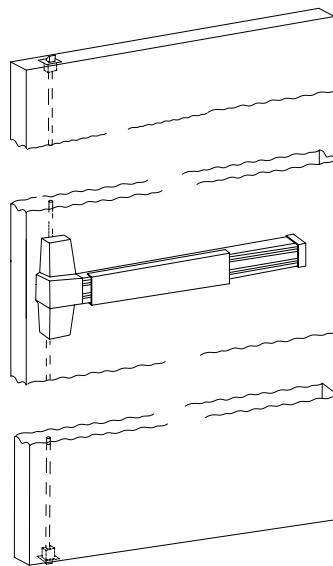
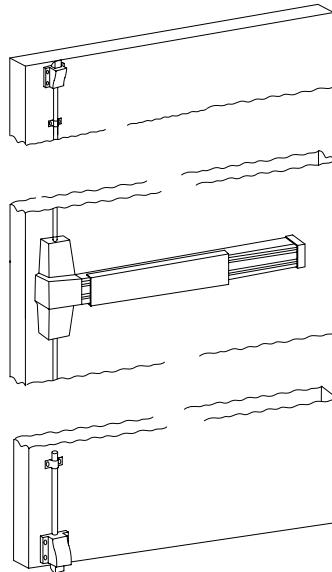

FIGURE 10c
FIGURE 10d
2. Vertical Rod types; (Concealed Figure 10c, and Surface, Figure 10d;) are normally used on pairs of doors. In preparing the door for an exit device, the drilling of the bolt holes (1/2 in. dia. or less) and/or the drilling and tapping for sectional or full trim plates shall be done in the field by the installer. After the lock is installed and adjusted, the trim plate can be applied to suit the final position of the latching device. If through bolt or tapped holes were provided by the manufacturer, this adjustment becomes difficult if not impossible.